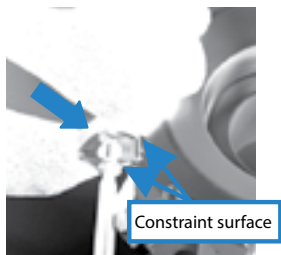

Fig. 1
2. After applying anti-seize compound on portion of taper and thread, while pressing the insert against the constraint surfaces, put the screw into the hole of the insert and tighten the screw with appropriate torque. (Ref. to Fig. 1 and Fig. 2)